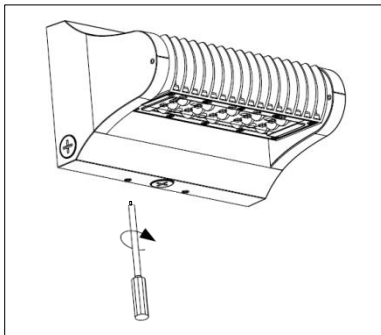

Figure 7
7. Mount the luminaire housing on the top slots of the mounting plate, and then retighten the mounting plate set screws (see Figure 7).
10. Mount the luminaire housing on the top slots of the mounting plate, and then retighten the mounting plate set screws (see Figure 7).